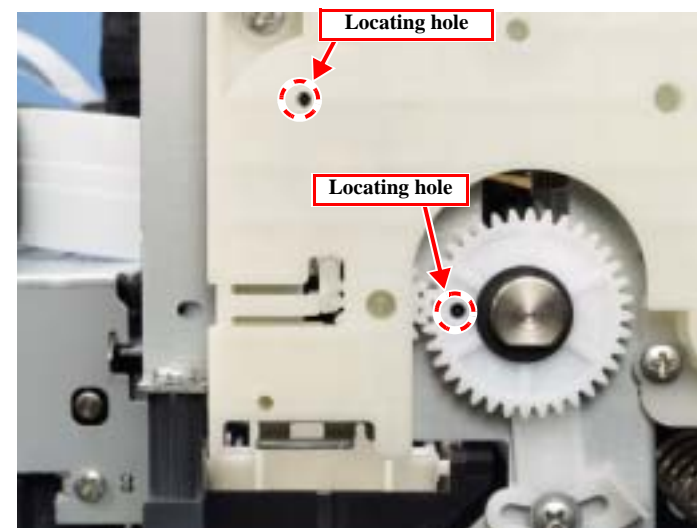

Figure 5-1. PG Position at PG Adjustment
3. Check that the APG Assy and the carriage are in the PG-position. (Fig. 5-1)